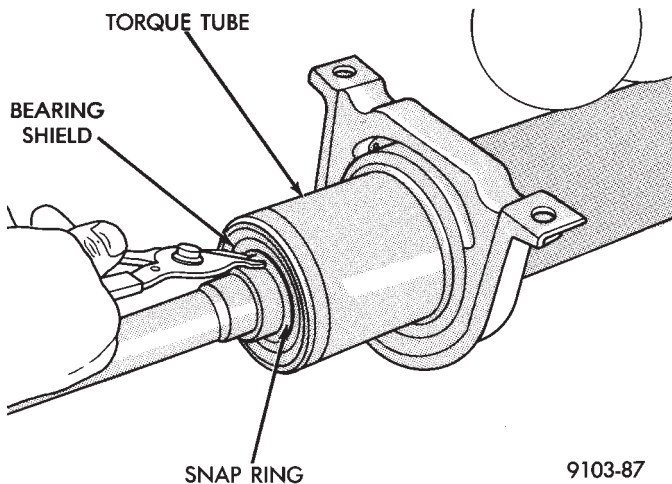

Fig. 13 Remove Torque Shaft Snap Ring and Torque Tube Bearing Shield
(10) Remove torque shaft snap ring (Fig. 13) and torque tube bearing shield.